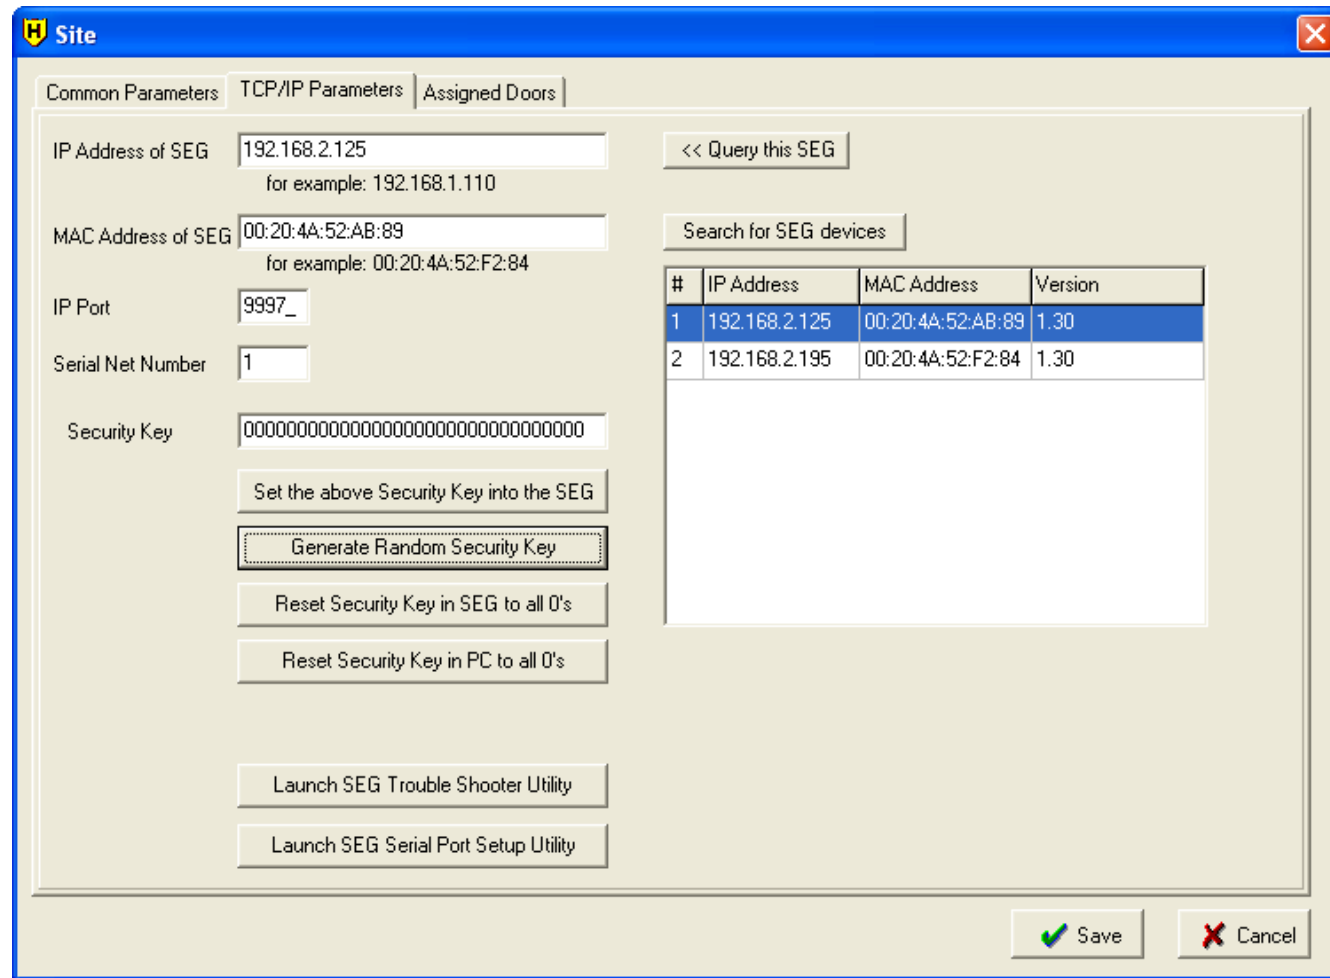

Figure 3: Found SEG's are displayed in grid
3. In approximately 5-10 seconds a grid will be filled with any SEG devices that were found (Fig. 3) and a message will be displayed asking you to select a SEG in the grid (Fig. 4).